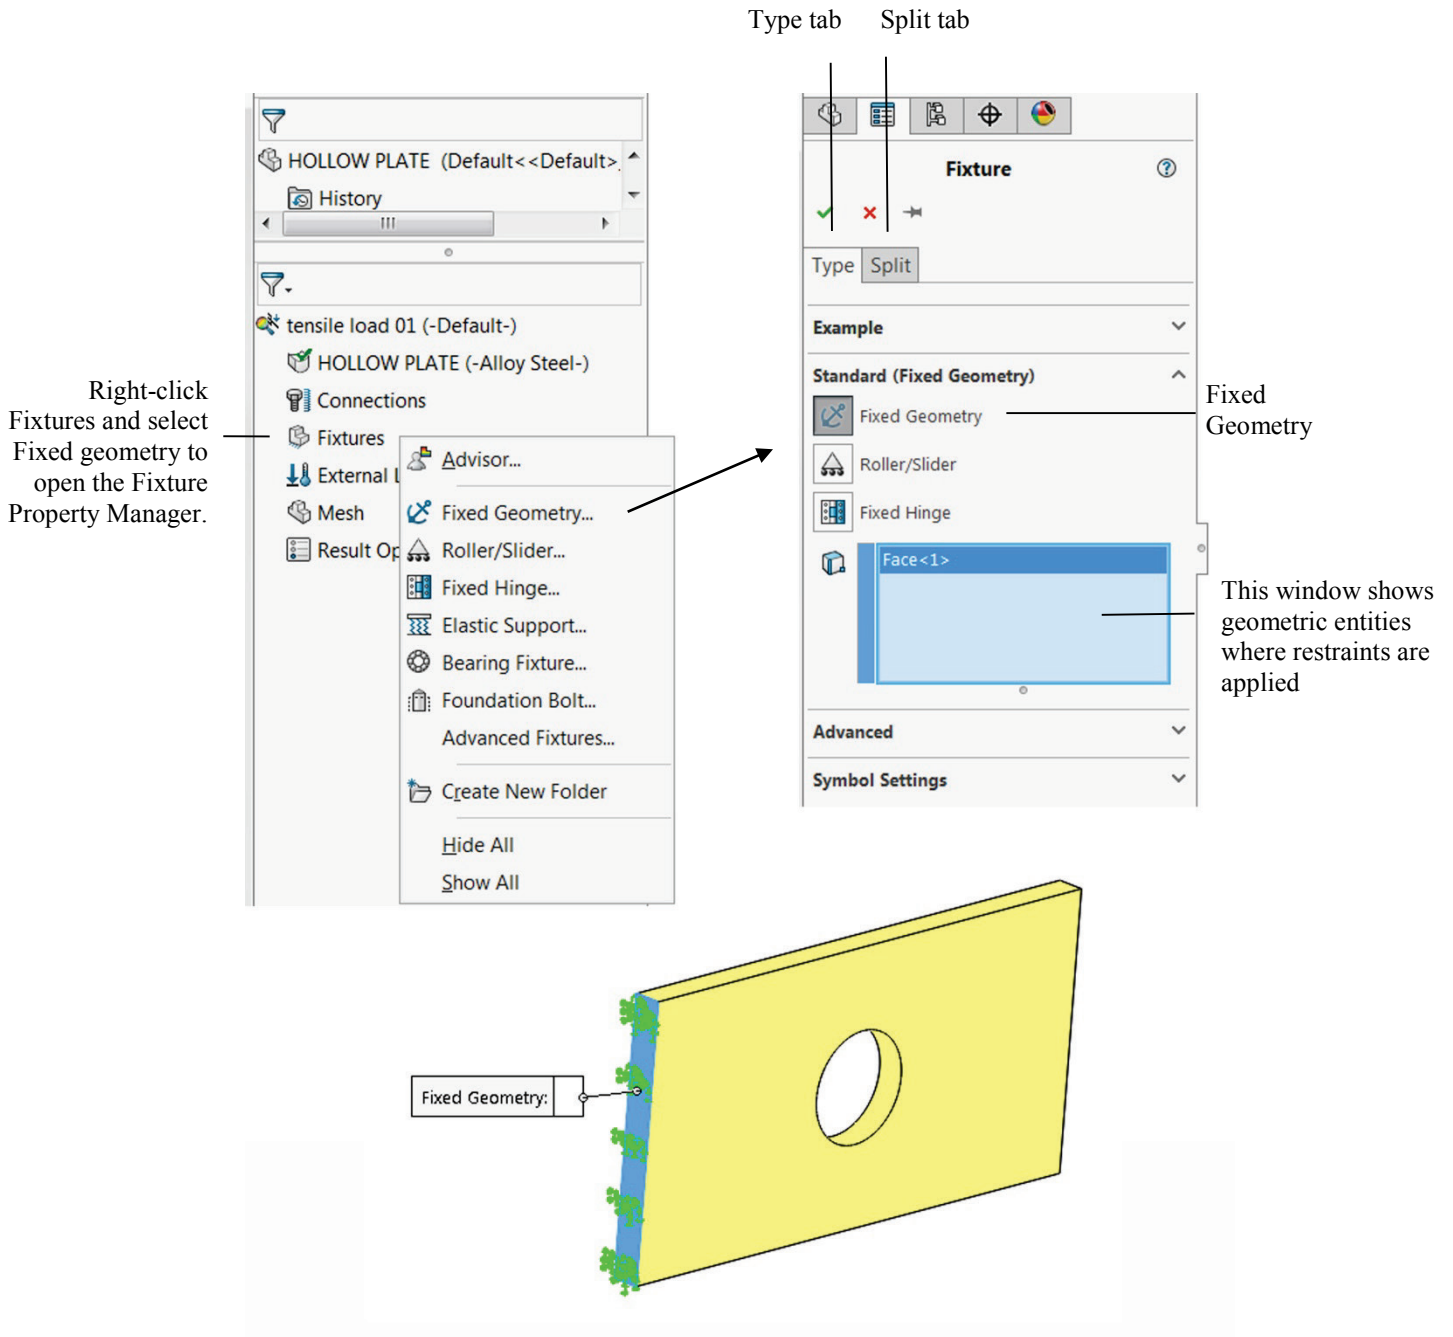

Figure 2-10: Pop-up menu for the Fixtures folder and Fixture definition window (Fixture Property Manager).
Having assigned the material, we now move to defining the restraints. To display the pop-up menu that lists the options available for defining restraints, right-click the *Fixtures* folder in the *tensile load 01* study (Figure 2-10).
The existence of restraints is indicated by symbols shown in Figure 2-10. In the **Symbol** Settings of the Fixture window, the size of the symbol can be changed. Notice that symbols shown in Figure 2-10 are distributed over the highlighted face meaning the entire face has been restrained. Each symbol consists of three orthogonal arrows symbolizing directions where translations have been restrained. Each arrow has a disk symbolizing that rotations have also been restrained. The symbol implies that all six degrees of freedom (three translations and three rotations) have been restrained. However, the element type we will use to mesh this model (second order solid tetrahedral element) has only translational degrees of freedom. Rotational degrees of freedom can't be restrained because they don't exist in this type of element. Therefore, disks symbolizing restrained rotations are irrelevant in our model. Please see the following table for more explanations.
- Right-clicking the *Fixtures* folder and selecting **Hide All** or **Show All** in the pop-up menu shown in Figure 2-10, or